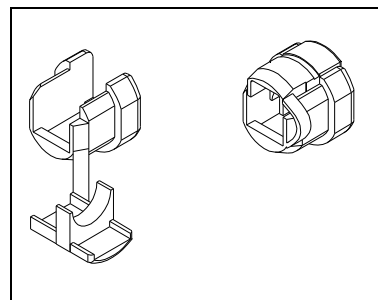
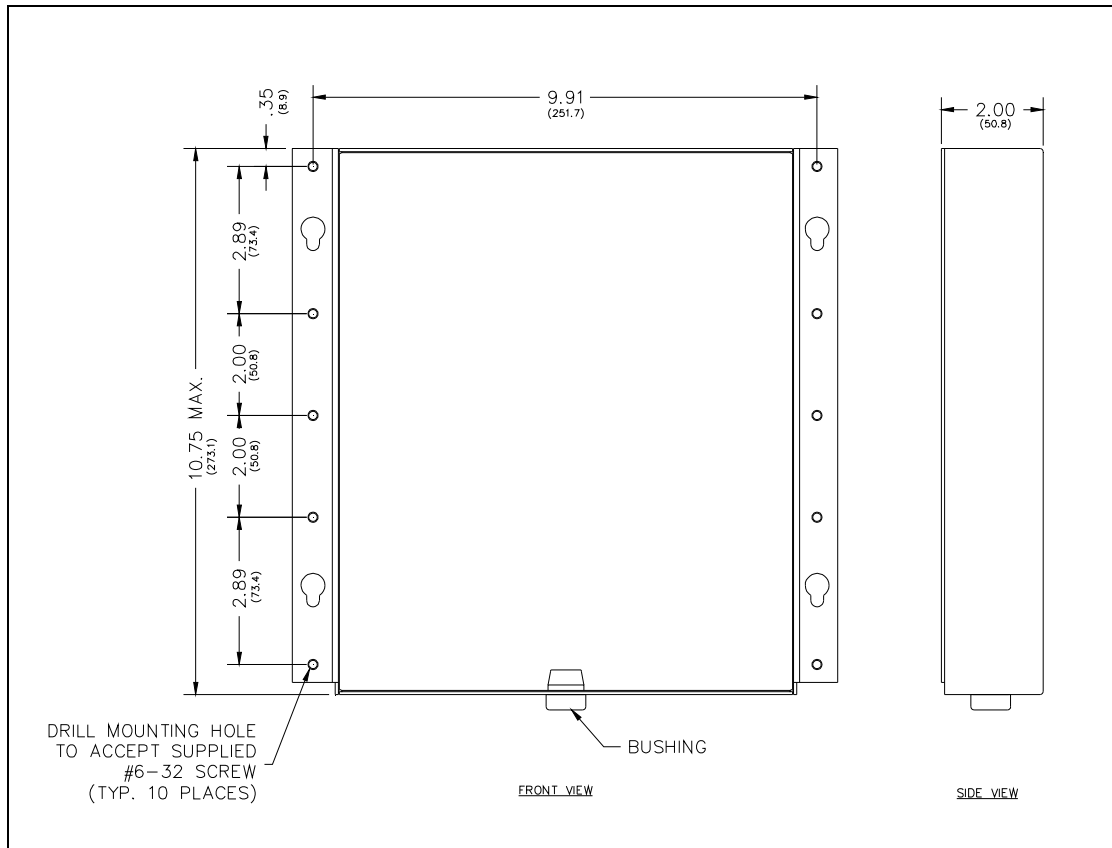
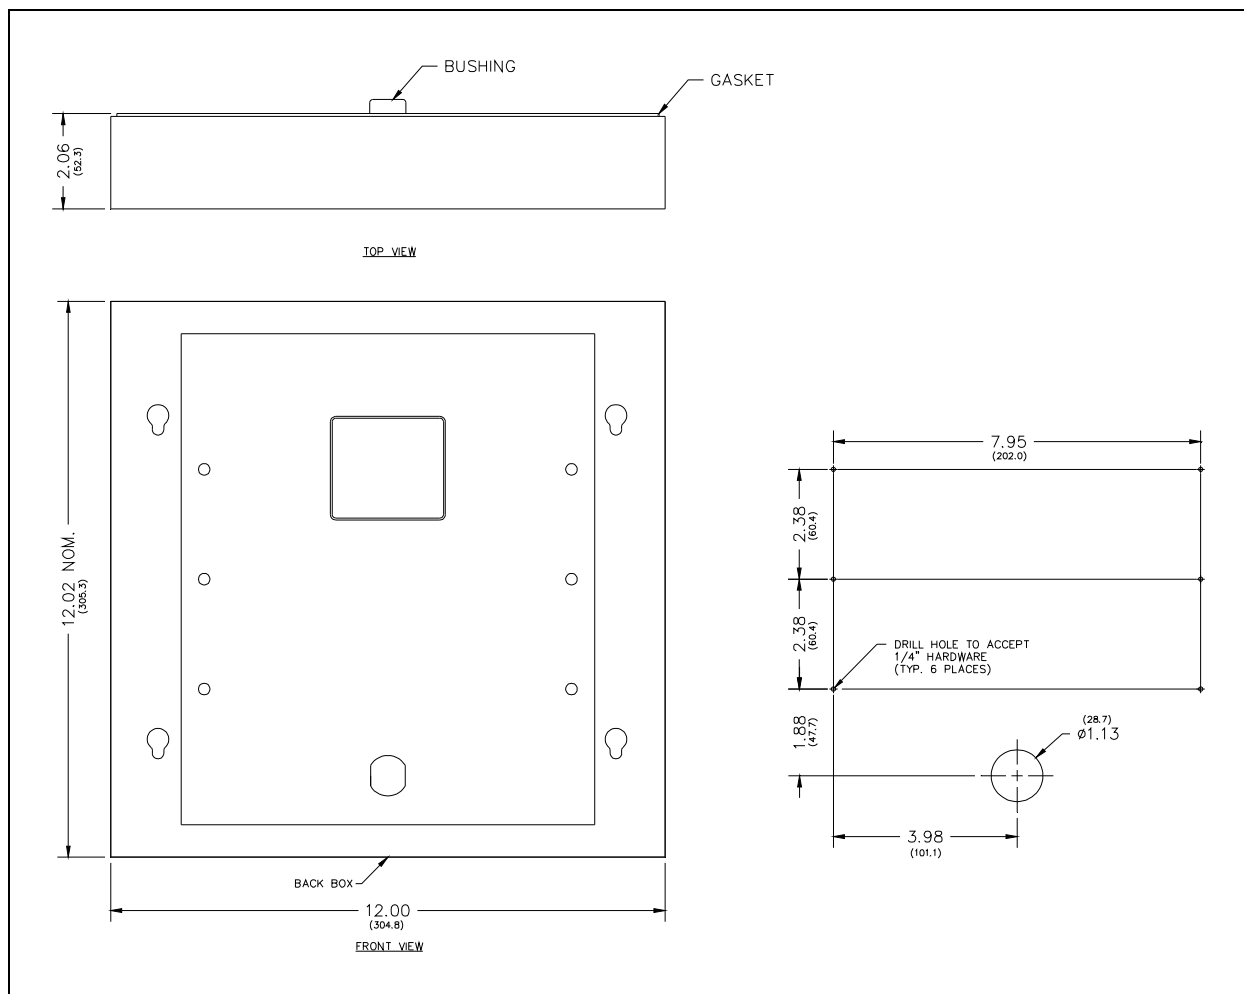

Figure 3. Bushing
Figure 6. Mounting bracket for Model 112-02-0418-00W
Figure 8. Mounting the Model 112-02-0418-01W
3. If using Power-over-Ethernet, without any optional inputs or outputs, place the bushing around the Ethernet cable so that it is located approximately 120mm from the end of the cable. Snap the bushing closed and insert into the double “D” hole in the bottom of the back bracket. See Figure 3 and Figure 6.
4. If using local power or optional inputs or outputs, route the cables through the “D” hole in the bottom of the back bracket. See Figure 6.
5. Place the back bracket in the wall. Locate the mounting holes. Refer to Figure 6.
2. If using Power-over-Ethernet, without any optional inputs or outputs, place the bushing around the Ethernet cable so that it is located approximately 120mm from the end of the cable. Snap the bushing closed and insert into the double “D” hole in the back box. See Figure 3 and Figure 8.
3. If using local power or optional inputs or outputs, route the cables through the “D” hole in the bottom of the back box. See Figure 3 and Figure 8.